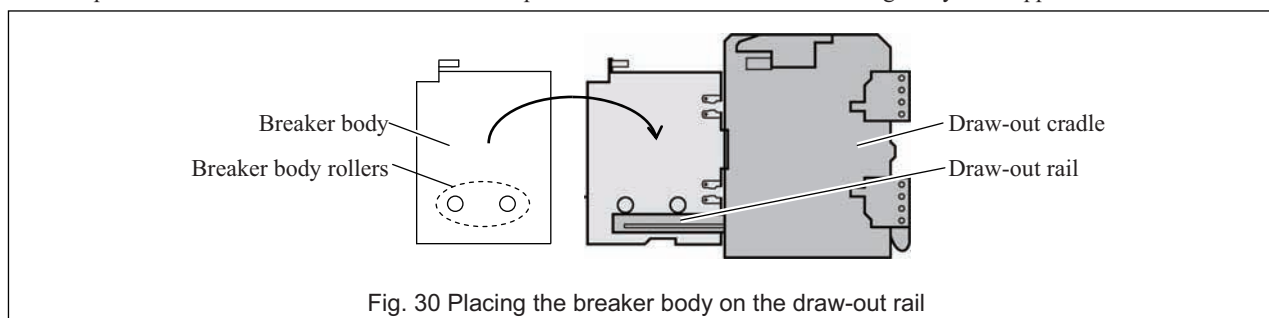

Fig. 30 Placing the breaker body on the draw-out rail
- 3) Use an optional lifter or lifting plate to place the breaker body rollers (Fig. 30) on the draw-out rail (Fig. 30).